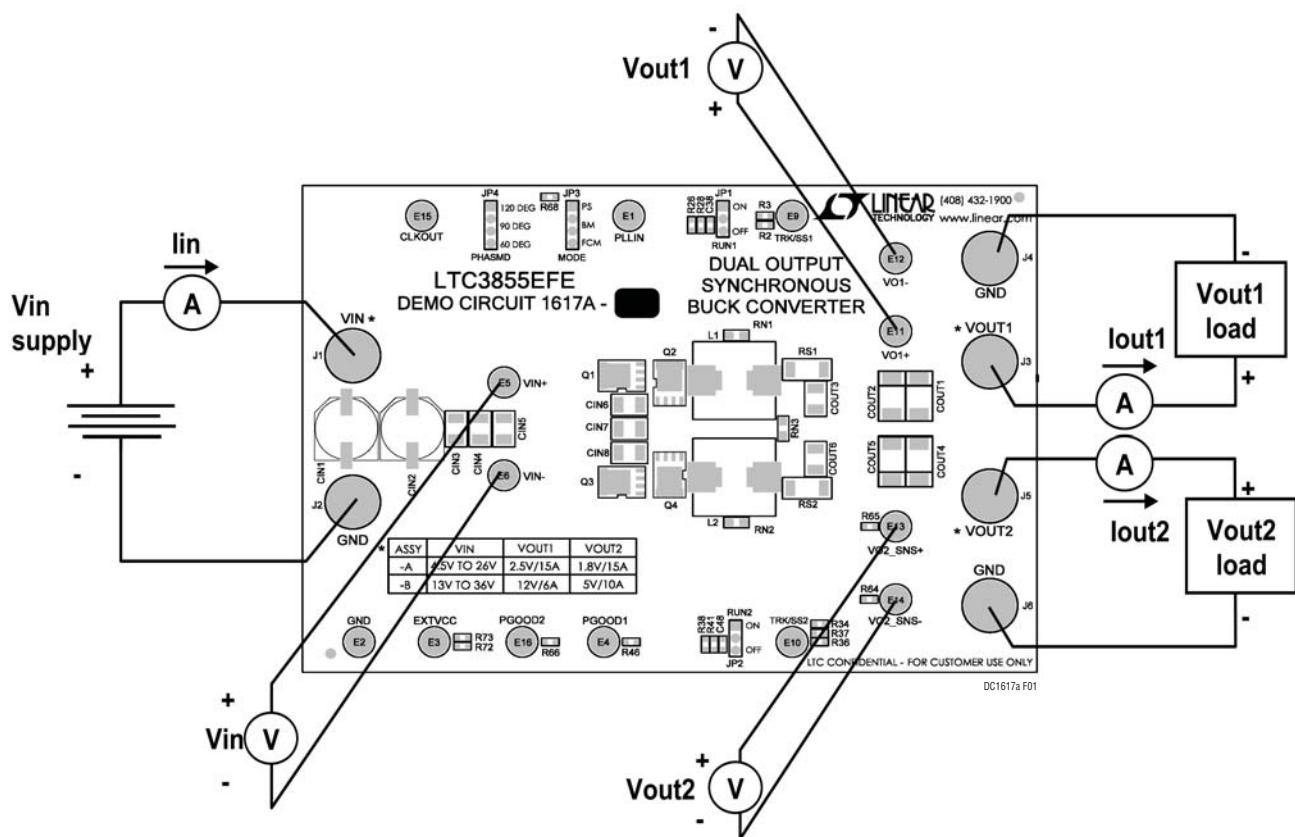

Figure 1. Proper Measurement Equipment Setup.
Demonstration circuit 1617A is easy to set up to evaluate the performance of the LTC3855EFE. Please refer to Figure 1 for proper measurement equipment setup and follow the procedure below.
1) With power off, connect the input supply, load and meters as shown in Figure 1. Preset the load to 0A and  $V_{\text{IN}}$  supply to be 0V. Place jumpers in the following positions: